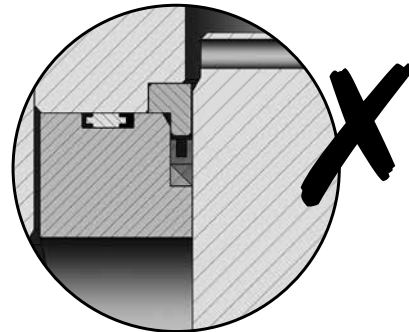

Figure 6A: Incorrect Seal Ring Installation showing lower back-up ring 90° angle facing away from extrusion gap
1. Assemble the seat ring gasket (11) into the valve body (25).
2. Assemble the liner (18) into the valve body (25) making sure that it aligns correctly on top of the seat ring gasket (11).
3. Assemble the plug (20) and stem (21) subassembly into the liner (18).
4. For the balanced trim design configuration (available in 1.5" size only), lubricate the seal ring and both back-up rings (9) and carefully assemble it over the plug (20). Make sure the lower back-up ring right angle corner is facing the extrusion gap between the liner and plug (see Figures 6A and 6B) and the open end of the seal faces upward or away from the seat. Use the seal retainer (Step 5) to push the balance seal and back-up rings fully into the liner.
5. Install the seal retainer (8) into the liner (18). For the balanced configuration, use the seal retainer to push the seal ring and back-up rings (9) fully into the liner.
6. Install the body gasket (10) and assemble the bonnet (23) onto the body (25). Be careful not to damage the stem (21) while installing the bonnet.
3. Assemble the seat ring (19) into the valve body (25) making sure that it aligns correctly on top of the seat ring gasket (11) located in the body.
4. Assemble the liner (18) into the valve body (25) making sure it aligns correctly on top of the seat ring (19) and seat ring gasket (11).
5. Assemble the plug (20) and stem (21) subassembly into the liner (18).
6. For the balanced trim design configuration, lubricate the seal ring and both back-up rings (9) and carefully assemble it over the plug (20). Make sure the lower back-up ring right angle corner is facing the extrusion gap between the liner and plug (see Figures 6A and 6B) and the open end of the seal faces upward or away from the seat. Use the seal retainer (step 7) to push the balance seal and back-up rings fully into the liner.
7. Install the seal retainer (8) into the liner (18). For the balanced configuration, use the seal retainer to push the seal ring and back-up rings (9) fully into the liner (18).